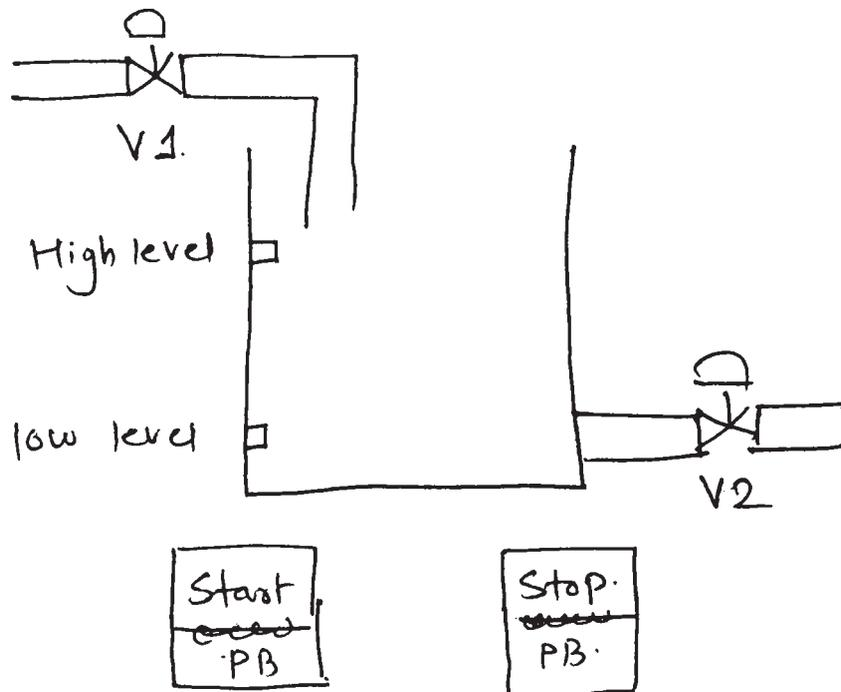

Fig. No. 1
- c) Draw a ladder diagram for following logic (see Fig. No. 1):